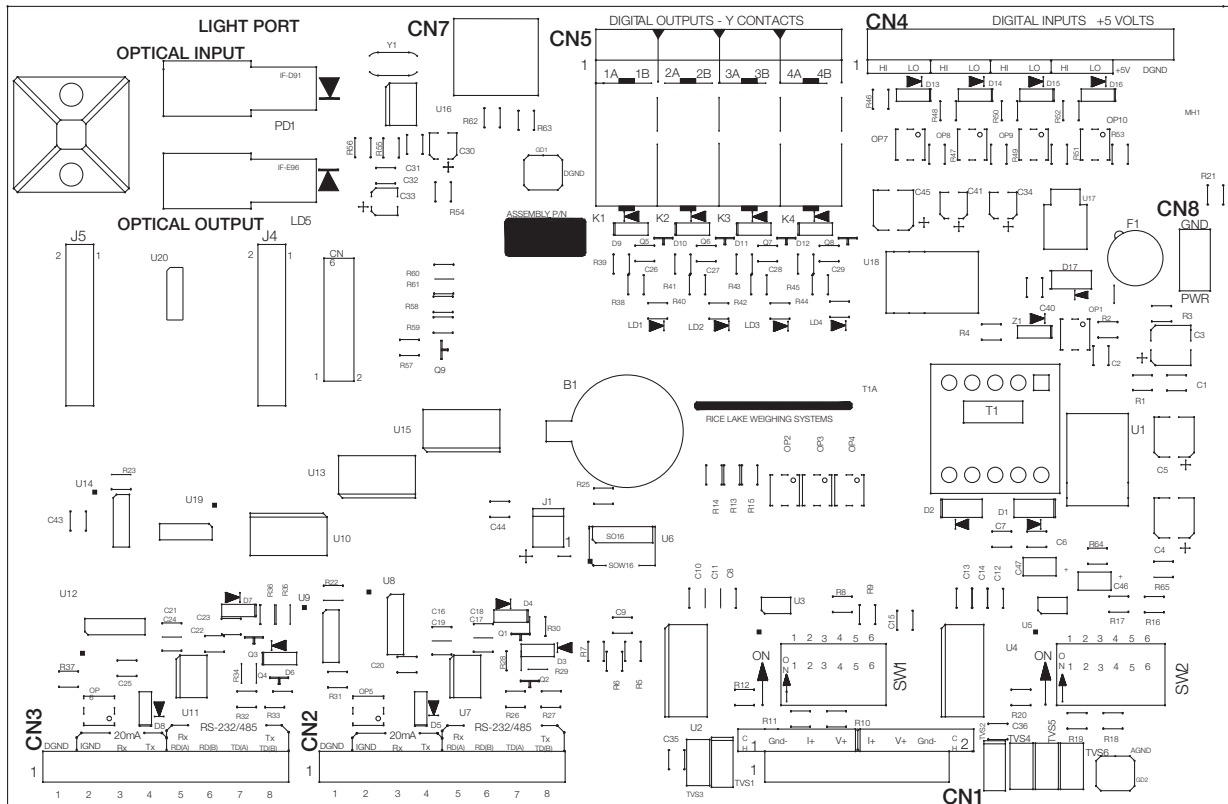

Figure 9-1. I/O Module Board
The following section describes the wiring of various ports of the *I/O Module*. Table 9-1 below lists the connectors of the main board of the *I/O Module*. See Figure 9-1 for port locations.
The *I/O Module* is equipped with duplex fiber optic ports for communicating with other devices located in the safe or hazardous area. It provides electrical isolation and eliminates the use of I/O barriers commonly used in intrinsically safe systems. The fiber optic wires are plastic; no polishing or further preparation is required. See Figure 9-1 on page 69 for the location of the fiber optic ports on the *I/O Module* main board.
4. Secure duplex fiber optic cable to wire tie mounting button located on I/O Module circuit board (see Figure 9-1 on page 69) using wire ties included in parts kit.
The *I/O Module* uses two 16-bit isolated analog output channels with 4-20mA and voltage (0-5V/±5V/0-10V/±10V) outputs supplied from a DC/DC converter. The output voltage ranges are DIP-switch selectable (see Figure 9-1 on page 69). Analog output configuration is done via setup mode in the indicator used with the *I/O Module* (see the applicable indicator installation manual).
The analog output circuitry consists of two identical channels that can be assigned to gross or net weight values. The analog outputs can be configured to operate as either current or voltage outputs. The voltage output range is selected by configuring DIP switches SW1 (1-6) for channel 1 and SW2 (1-6) for channel 2 (see Figure 9-1 on page 69).
The analog output port is powered by an isolated DC-DC converter. The outputs available on connector CN1 are listed in Table 9-8 below. See Figure 9-1 on page 69 for the location of CN1 and DIP switches.
Digital inputs are available on connector CN4 (see Figure 9-1 on page 69). All inputs are individually isolated via optocouplers. Table 9-9 outlines the pin connections for CN4.